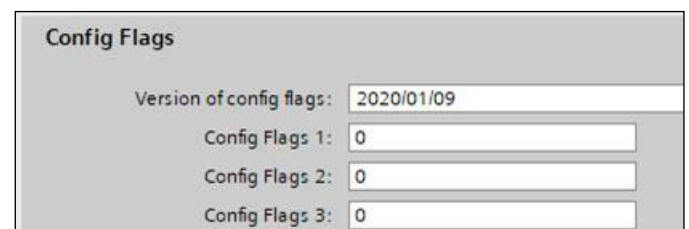

Fig. 84: Config Flags – linear profile
• **Ignoring offsets configured in the project:** You can use the “Config Flags 1” entry to set whether the sensor should accept or ignore the offsets transmitted by the controller when establishing the connection. You can adjust this in the module parameters of the sensor in the “Config Flags” section (Fig. 84). You can set the following values for bit 1 of the “Config Flags 1” entry: